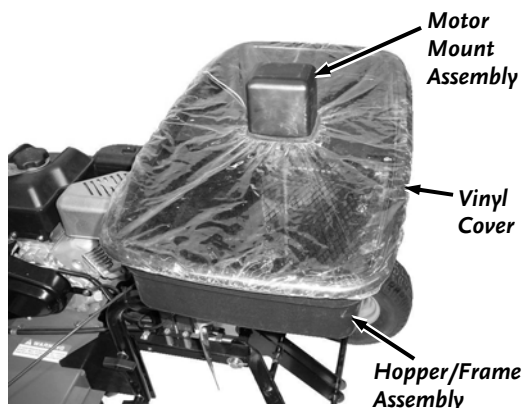

Figure 32
8. Heavy moisture conditions may require a cover over the hopper to keep contents dry. The Vinyl Cover acts as a wind and moisture shield, but should not be used as a rain cover (**Figure 32**).